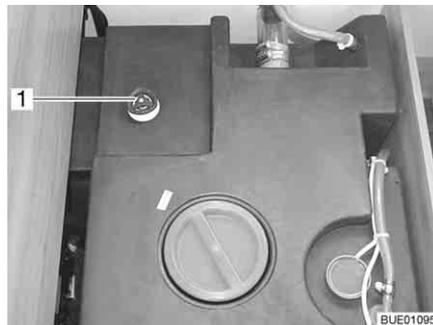

Fig. 171 Water tank with handle
- Turn the handle (Fig. 171,1) on the water tank in an anticlockwise direction as far as possible beyond the resistance to fully open the drainage opening.